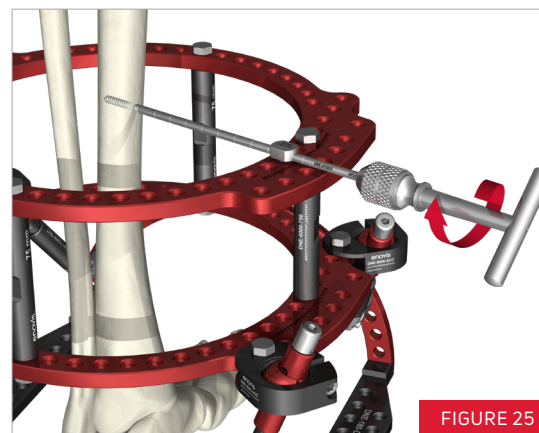

FIGURE 25
5. Passing the half pin into through the second cortex should be done manually using the T-handle supplied in the set (DNE-9000-TH-ST) (**FIGURE 25**).